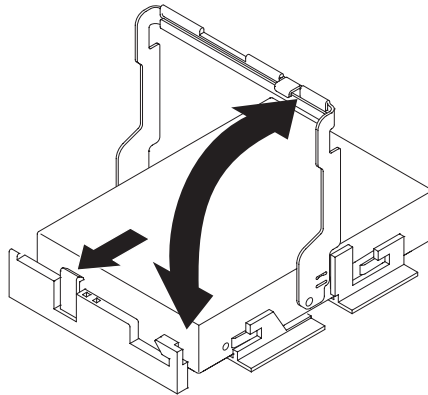

Figure 47. Raising the drive handle
- a. Raise the drive handle to the vertical position, as shown in Figure 47.